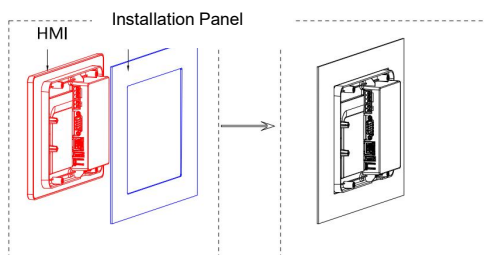

Figure 2
Step 1. As shown in Figure 2, embed the HMI main body into the installation panel.